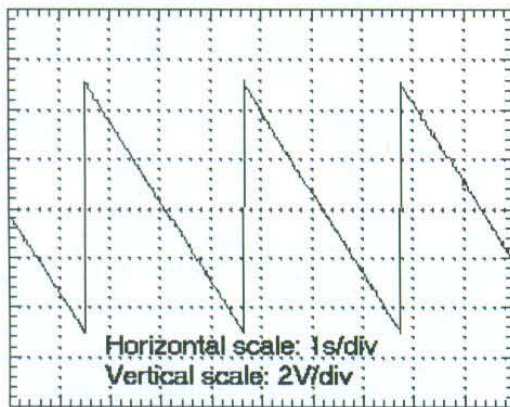

Figure 6. Typical waveform at the output of the XR-100CR.
2. Connect the XR-100CR output to a high impedance input of an oscilloscope. Verify that the output waveform is resetting as shown in Figure 6 of Section 7.